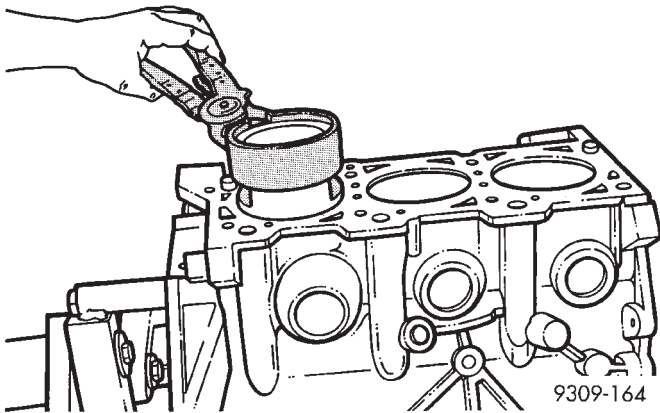

Fig. 14 Installing Piston
(1) Before installing pistons and connecting rod assemblies into the bore, be sure that compression ring gaps are staggered so that neither is in line with oil ring gap.
(2) Before installing the ring compressor, make sure the oil ring expander ends are butted and the rail gaps located as shown in (Fig. 14).